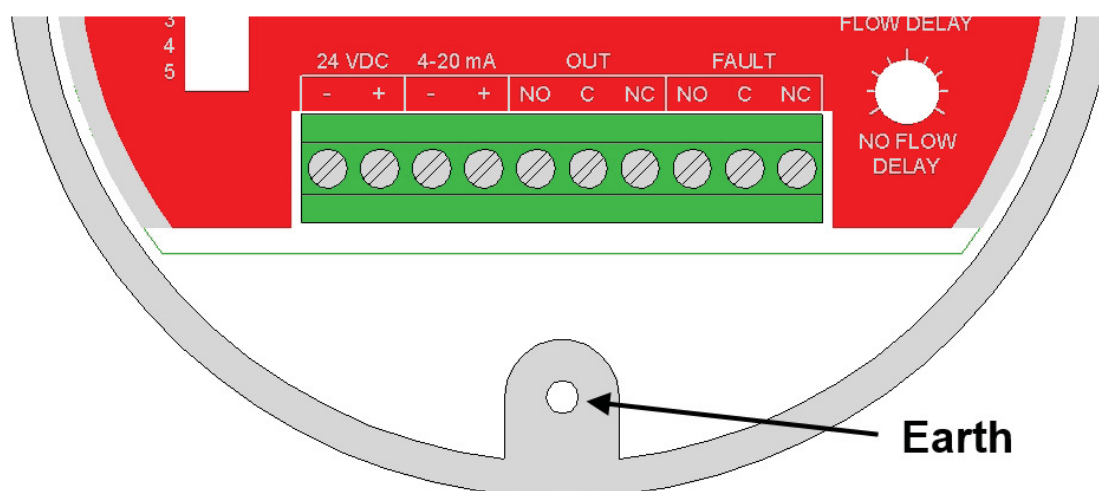

Figure 3
These terminals are accessible by unscrewing the enclosure cover. All wiring should be fed from the outside, through the conduit openings. Terminal labels are printed directly above the terminals on the control plate as seen in Figure 3.
The FD-2000 requires about 2.0 watts of power from a 24 VDC +/-10% source. Refer to Figure 3 for location of these two terminals. Connect the negative of the 24 VDC power source to the far left terminal labeled with the minus sign. Connect the positive to the terminal labeled with the plus sign. A good earth should also be connected at the screw terminal on the inside of the enclosure.
This is a powered or active current output and can drive up to 650 ohms. Refer to Figure 3 for location of these two terminals. Connect the negative wire coming from the current receiver to the terminal labeled with the minus sign. Connect the positive wire coming from the current receiver to the terminal labeled with the plus sign.
Each of the OUT and FAULT terminals offer an SPDT relay which provides dry contacts for operation of external controls or equipment. Terminal connections are available for the common (C), the normally open (NO) and the normally closed contacts (NC). Refer to Figure 3 for location of these terminals. The relay contacts are rated for 2A at up to 250 VAC or 220 VDC.